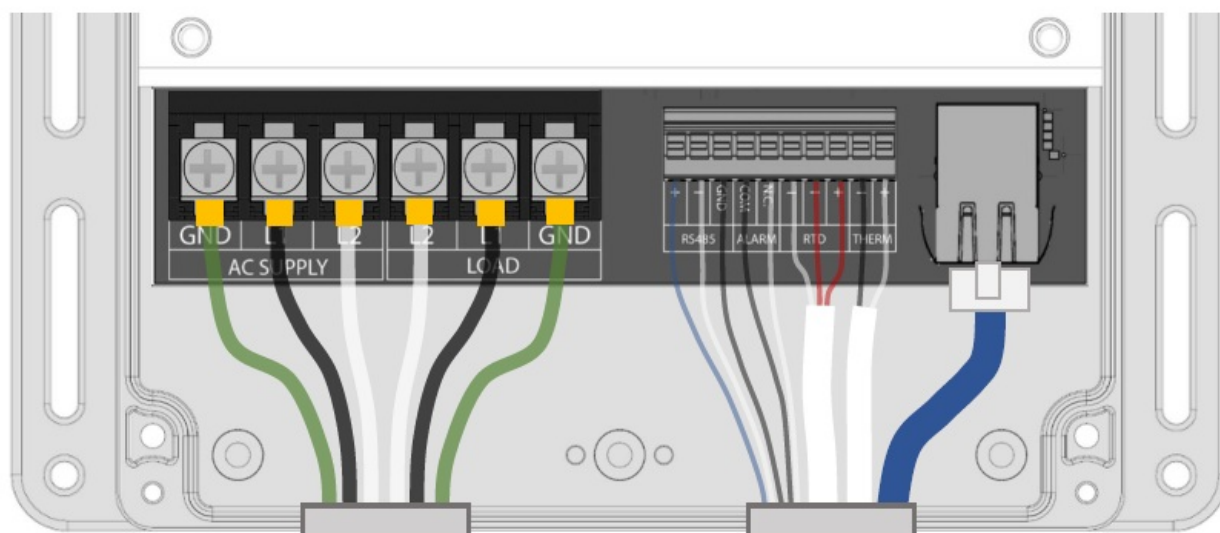

Figure 3: Top view of the Frio S1 controller with the wiring cover removed, showing all possible wiring connections.
2. Connect low voltage sensor and communications wires according to the image in Figure 3.
3. Connect heat trace leads as shown in Figure 3. The ground sheath of the heat trace must be connected to theground terminal on the controller.
4. Connect the power leads as shown in Figure 3. The ground connection on the controller must be properlyconnected to ground in accordance with local and national electrical codes.